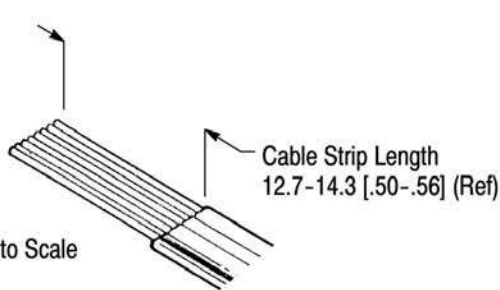

Figure 4
#### 3.1. Unshielded Flat Oval Cable (Figure 4)
4. Check cable strip length as shown in Figure 4.